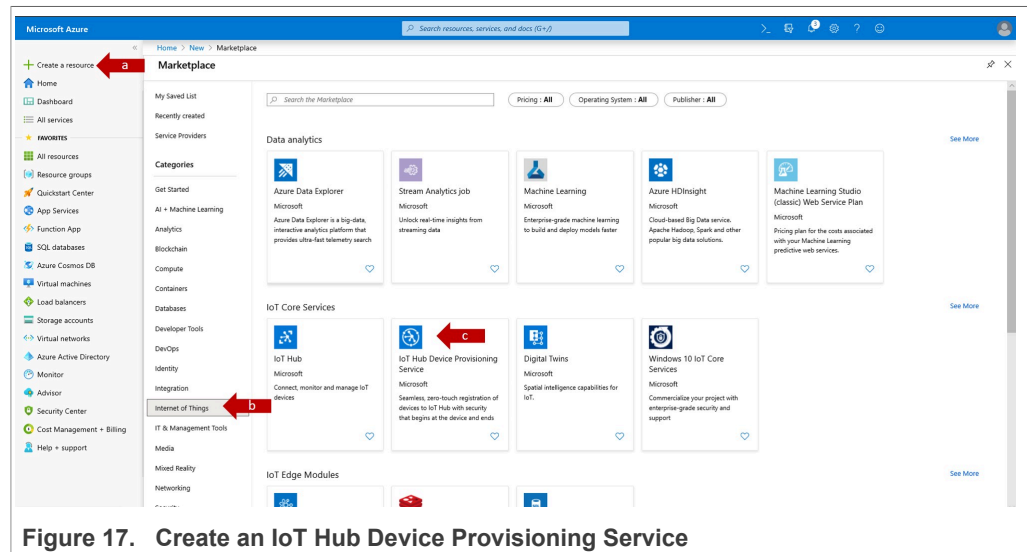

Figure 17. Create an IoT Hub Device Provisioning Service
- In the Azure Dashboard, do as indicated in Figure 17: